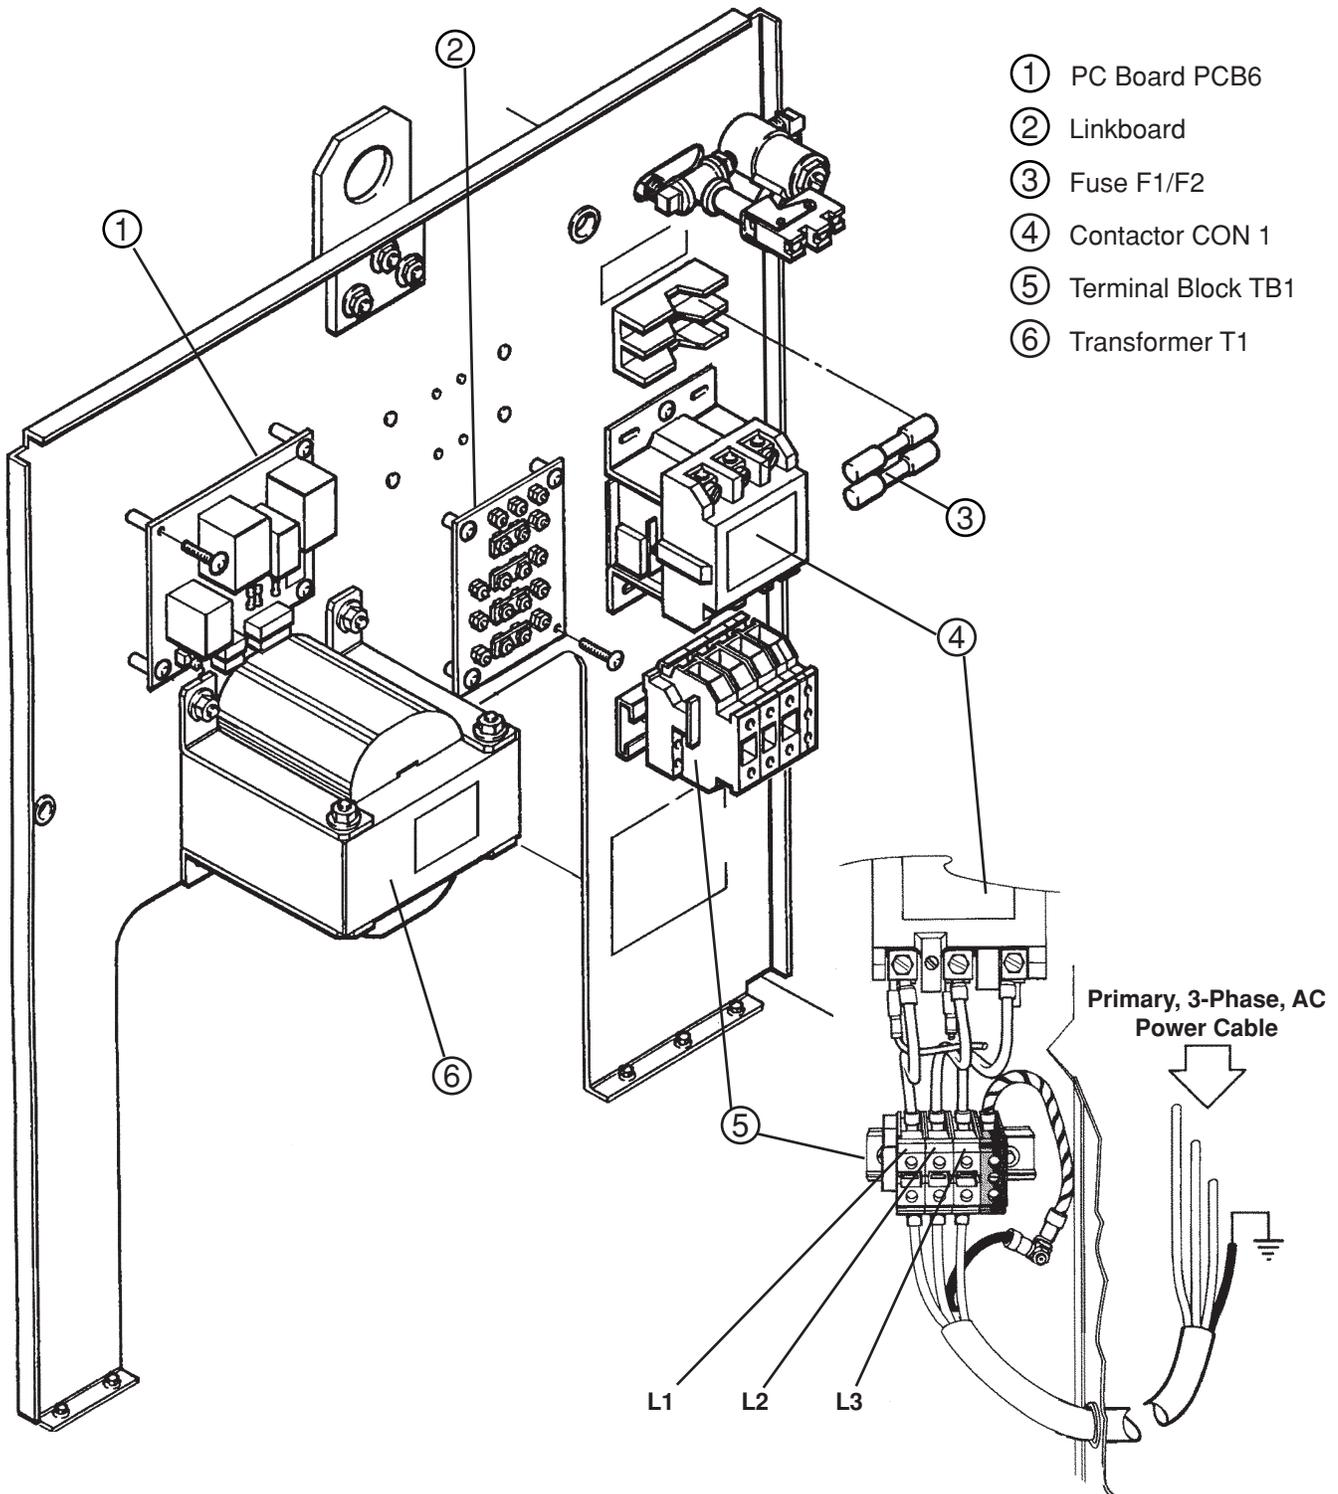
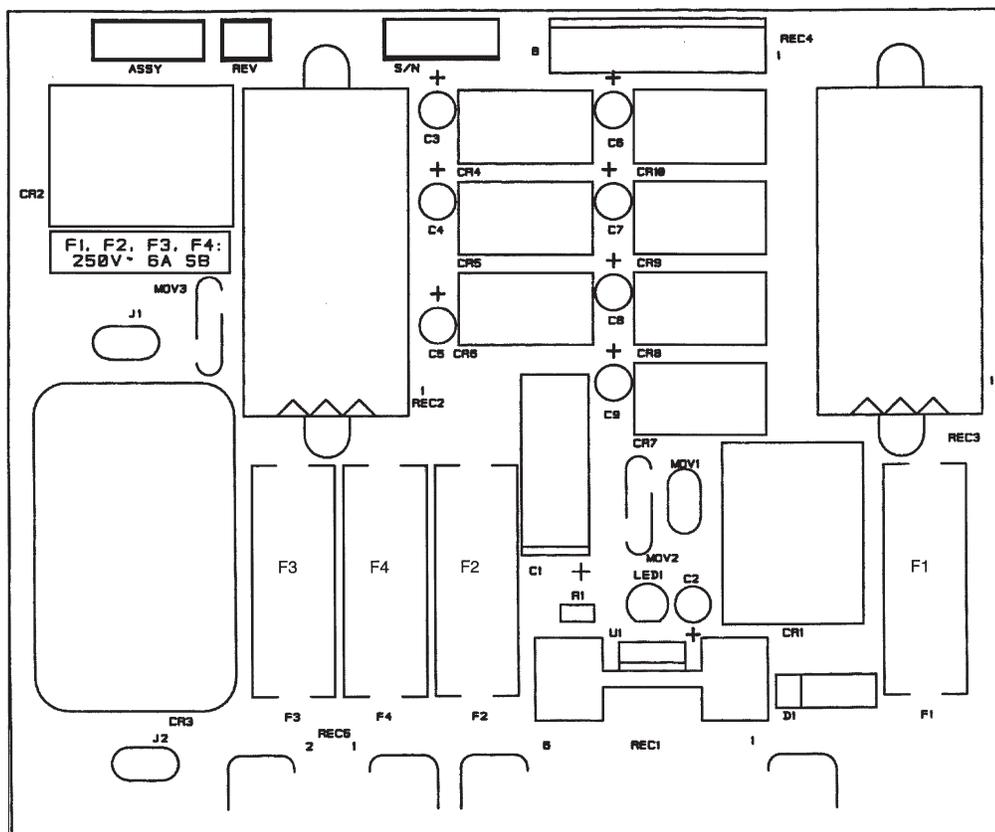

Figure 3-1 MAX200 Initial Checks
Figure 3-2 Power Distribution PCB6
5. For a 200, 208, 240, 480, or 600-volt power supply, measure the voltage at TB1 between L1 (U), L2 (V) and L3 (W). See Figure 3-1, item 5. Refer to wiring diagram supplied with manual, if required. The voltage between any 2 of the 3 points at TB1 should be equal to the supply voltage (200, 208, 240, 480, or 600 VAC). If there is a problem at this point, disconnect main power and check connections, power cable, and fuses or circuit breaker at line disconnect switch. Repair or replace any defective components.
6. Measure voltage at power distribution board PCB6 (Figure 3-1, item 1). Look on the board for fuses F1 through F4 (Figure 3-2). Measurements between each fuse and chassis ground should be as follows:
If voltages are not present, or incorrect at 1 or more of these points, disconnect power and troubleshoot PCB6 fuses and associated pins, connectors and wiring between power distribution board connector REC1 and transformer secondary T1 (Figure 3-1, item 6).
Also, check main power fuses F1 and F2 (Figure 3-1, item 3) and associated wiring and connections between T1 and L1 and L2.
Check that CR2 switches when POWER ON pushbutton is pressed. See Figure 3-2 for location of CR2. If CR2 is defective, desolder CR2 and replace.
- 2.3. *PL2 and REC2 on Power Distribution Board (see Figure 3-2 for location of REC2) are not seated well.*
Check that CR1 switches when POWER ON pushbutton is pressed. See Figure 3-2 for location of CR1. If CR1 is defective, desolder CR1 and replace.
- Check connections and associated wiring from PL23 to REC3 of PCB6. See Figure 4-6 for location of PCB6, and Figure 3-2 for location of REC3.
- Using the 013-2-179 wiring diagram, check pins, wires and connections from PL24 to REC3 of PCB6. See Figure 4-6 for location of PCB6. See Figure 3-2 for location of REC3.